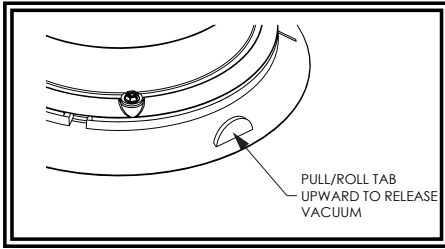

Figure 2
**Temporary Mounting, Vacuum-Magnet Mount:** The Vacuum-Magnet Mount feature includes a suction cup on the bottom of the beacon, with a magnet inside of the suction cup, for a secure, temporary mount. The beacon should be placed in the center of the roof where the least amount of curvature occurs. Before installing, make sure the mounting surface is clean and there is no debris on the bottom of the beacon or on the roof of the vehicle, which could reduce the holding power of the suction cup and magnet. Place and remove the beacon without sliding to avoid scratching the paint on the vehicle. After placement, the beacon should adhere firmly to the surface. If the unit slides or moves easily, a proper installation has not been obtained. To release the vacuum, lift the tab to release the airflow (see Figure 2). To protect the Vacuum-Magnet Mount assembly, return the beacon to the box when not in use. **Do not attempt to attach the beacon to an ice-covered surface.**